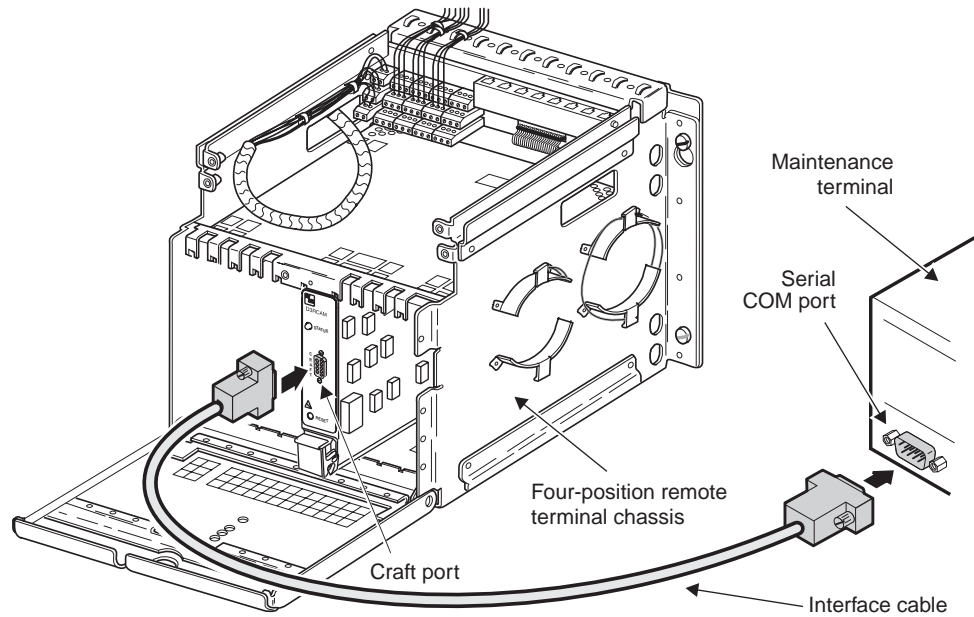

Figure 12. Connecting a Maintenance Terminal to the D3RCAM
- 3 Connect one end of the interface cable to the maintenance terminal and the other end to the D3RCAM craft port as shown in Figure 12.